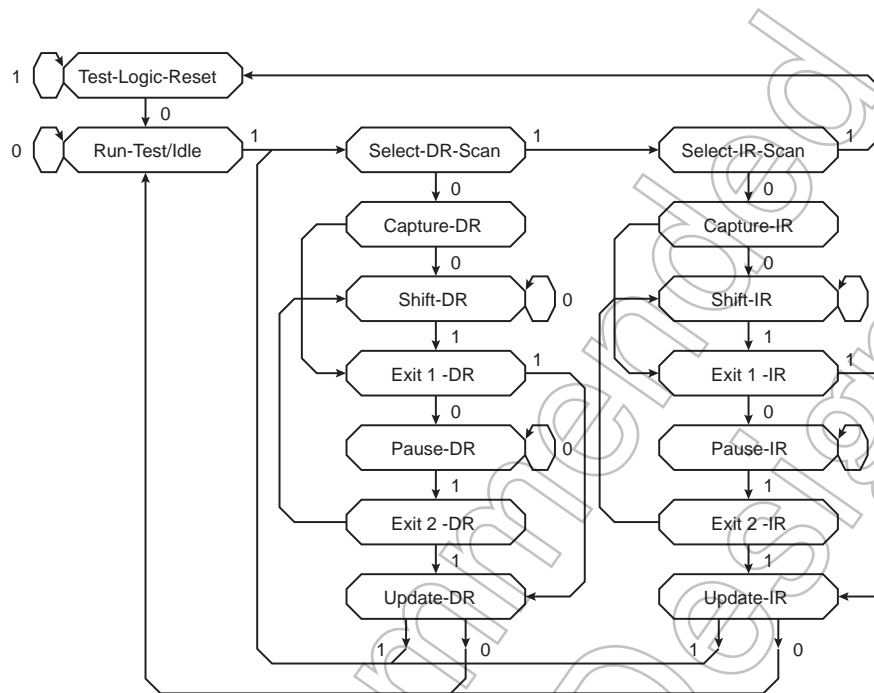

Figure 4-6 TAP Controller State Transition Diagram
The state transition diagram of the TAP controller is shown in Figure 4-6. Each arrow between states is labeled with a 1 or 0, indicating the logic value of TMS that must be set up before the rising edge of TCK to cause the transition.
The following paragraphs describe each of the controller states. The left column in Figure 4-6 is the data column, and the right column is the instruction column. The data column and instruction column reference the data register (DR) and the instruction register (IR), respectively.